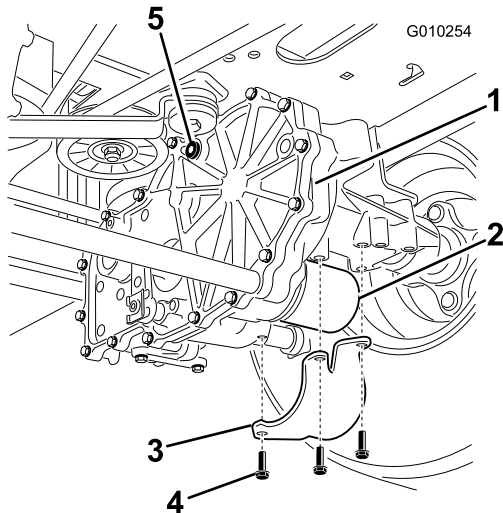

Figure 51
2. Locate the filter and guards on each transaxle drive system (Figure 51). Remove three screws securing the filter guard and guard.